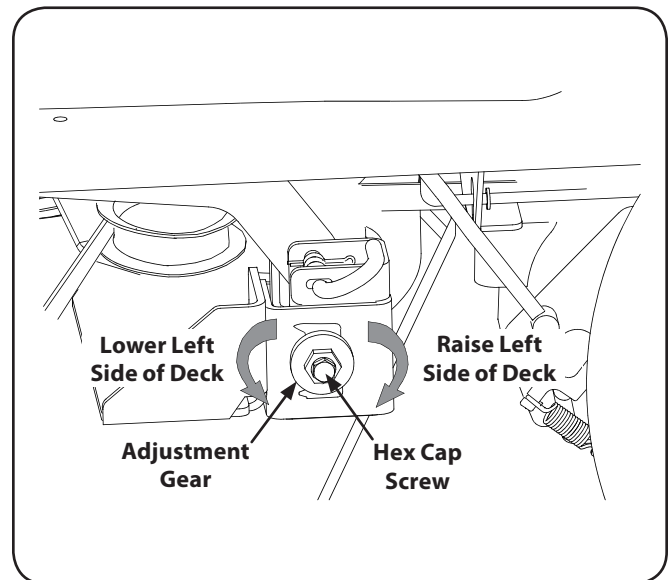

Figure 6-4
6. Loosen, but do not remove, the hex cap screw on the left deck hanger bracket. See Fig. 6-4.
7. Level the deck by using a wrench to turn the adjustment gear (found immediately behind the hex cap screw just loosened) clockwise to raise the left side of the deck, or counterclockwise to lower the left side of the deck. See Fig. 6-4.